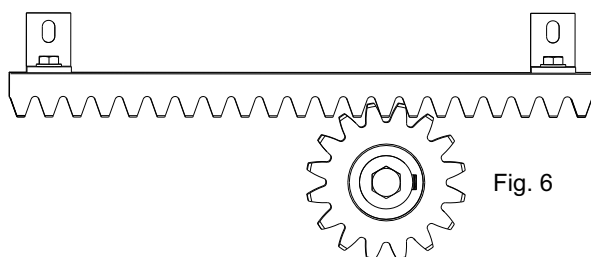

Fig. 6
5.3. Put the gear rack element on the toothed pinion of the moto, so to be parallel to the ground slideway of the gate, place it as shown in Fig. 6 and drill the holes corresponding to the holes of the L-shaped brackets on the top of the slot and fix to the leaf with screws (not delivered).